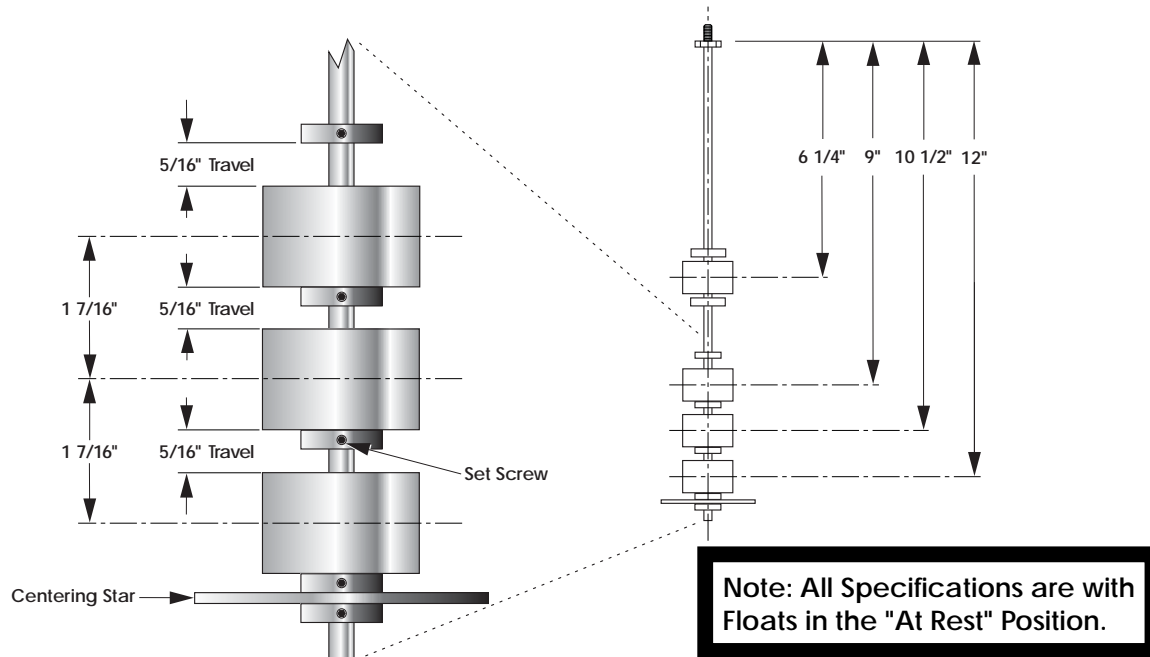

Figure B-2: Detail of Typical Float Settings
After removing the top flange and float assembly from the body of the level controller, examine the floats for signs of physical damage. If no visible damage is detected, check to assure that the floats are still in the factory preset position. Figure B-2 illustrates the float assembly and lists the normal float positions.
**Note:** *If the float settings for the particular unit vary from the normal float positions contained in Figure B-2, the proper settings for the unit will be listed in the design specifications and C.A.D. drawing supplied with the unit.*